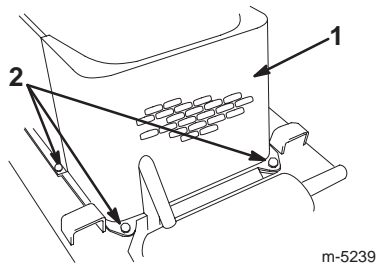

Figure 24
5. Remove the 4 bolts securing the front screen to the traction unit frame and remove the front screen (Fig. 24).